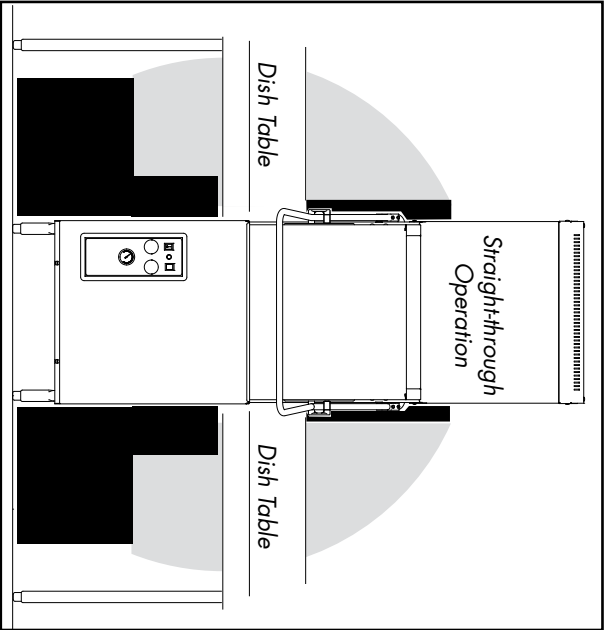
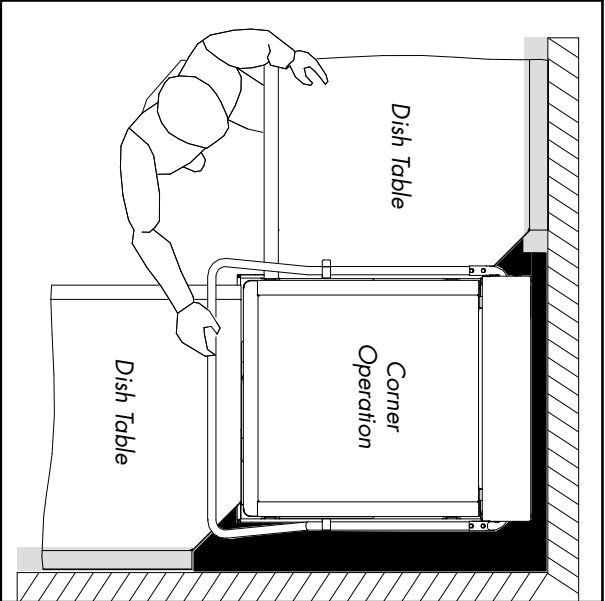

Figure 2 –
Figure 3 –
**Refer to Figure 2 and Figure 3 in the Installation Instructions below for additional information concerning the location of the control box.**
Refer to Figures 2 and 3. Note the gray and black shaded areas. The gray area indicates the approximate allowed location to mount the control box; black indicates the area where the control box must not be mounted.